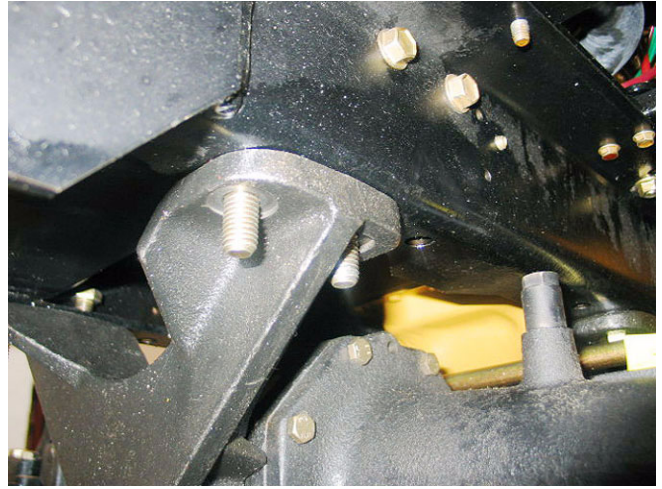

Figure 3.12
- 3.12. Remove the four nuts that secure the front axle bracket to the frame using a pair of 3/4" wrenches. See Figure 3.12.